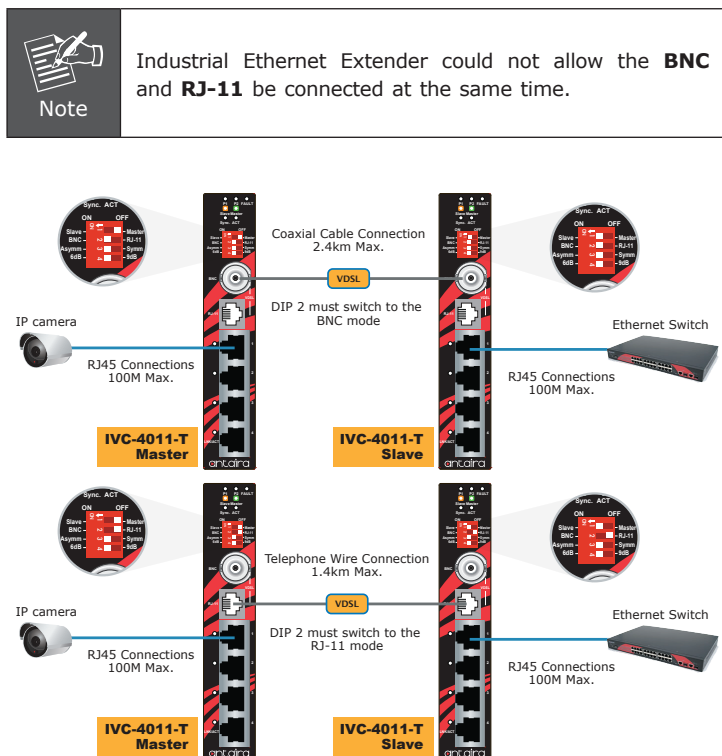

Figure 3-1: Industrial Ethernet Extender - BNC and RJ-11 connection chart
Antaira Industrial Ethernet Extender has a DIP switch which can adjust to be Master or Slave mode. Connection of 2 Antaira Industrial Ethernet Extenders, one must be set as Master (CO) mode and the other one must be set as Slave (CPE) mode. Please refer to the follow Figure 3-1 chart for reference.